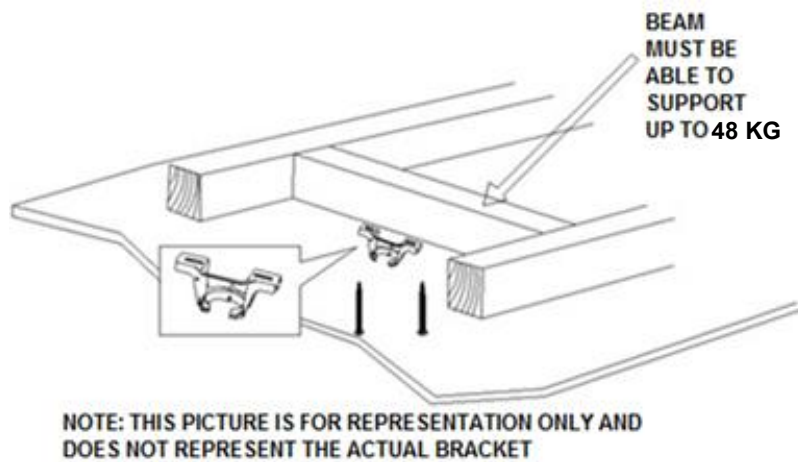

Fig. 2
- Install the hanging bracket to the ceiling joist or structure that is capable of carrying a load of at least 48kg, with two long screws provided. Ensure at least 30mm of the screw is threaded into the support. (Fig. 2)